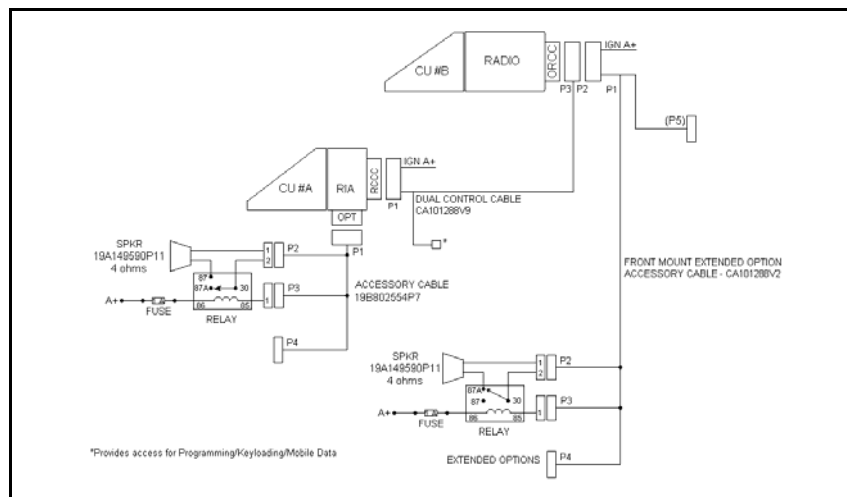

Figure 10-4: M7100^{IP} Dual Control Unit Front Mount/Remote Mount Installation Configuration
1. Referring to Figure 10-4, run the Dual Control Cable (19B802554P9) between locations for the Radio Unit and Auxiliary Control Unit. Be sure to locate the P2/P3 connector assembly at the Radio Unit.
- B. Hardwire each speaker directly (without relays) as shown in Figure 10-4.
9. Radio Unit Speaker: Connect the lead nearest the speaker to Pin 87A of the relay. Connect the lead nearest the connector to Pin 30 of the relay. Connect the connector to the Accessory Cable P2 (refer to Figure 10-4).
10. Auxiliary Control Unit Speaker: Connect the lead nearest the speaker to Pin 87 of the relay. Connect the lead nearest the connector to Pin 30 of the relay. Connect the connector to the Accessory Cable P2 (refer to Figure 10-4).
11. For each relay: Connect a #18 AWG black wire between the relay, Pin 85 and Accessory Cable P3-1 (labeled **"OUT2"** on the schematic diagrams in the service manual). Use a 1/4" tab receptacle on the relay side and mating Molex connector and pins on the accessory cable side. Connect the mating Molex connector to the Accessory Cable P3 when finished (refer to Figure 10-4).